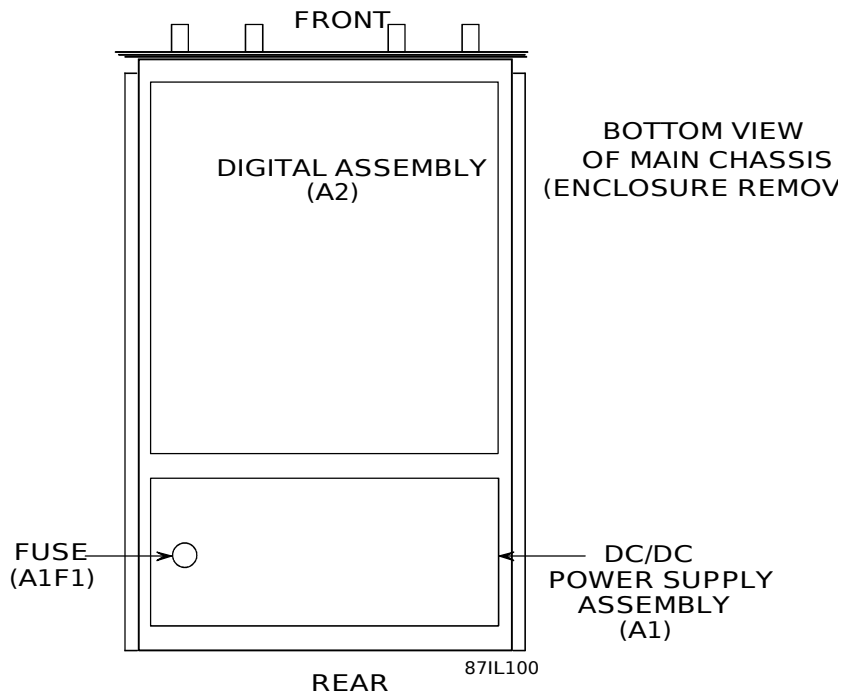

Figure 2-2. Location of Line Power Fuse A1F1
7. Unplug the fuse from the DC/DC Power Supply Assembly (A1) (**Figure 2-2**).